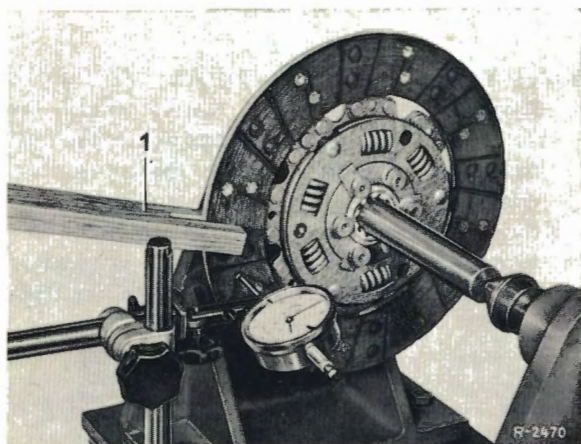

Fig. 25-1/3
7. Always check the driven plate for run-out and if necessary readjust it (Fig. 25-1/3). For maximum permissible run-out see Job No. 25-0.